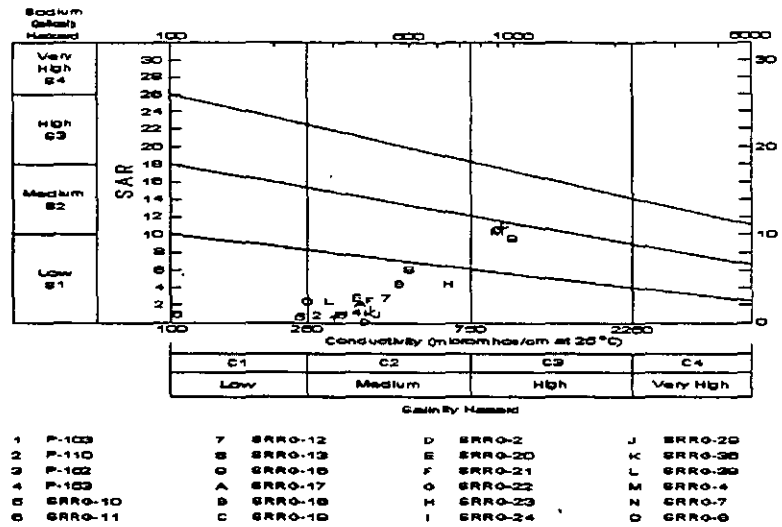

Figure 7-9
7.4.3. Wilcox Diagram WILCOX Diagram is named after Wilcox from the U.S. Department of Agriculture. This diagram is used in studying the suitability of water for irrigation purposes. High content of exchangeable sodium is highly undesirable for agriculture, as is the high total dissolved solids content, expressed as conductivity of water. An example of a screen display of the Wilcox diagram is shown in Figure 7-9.